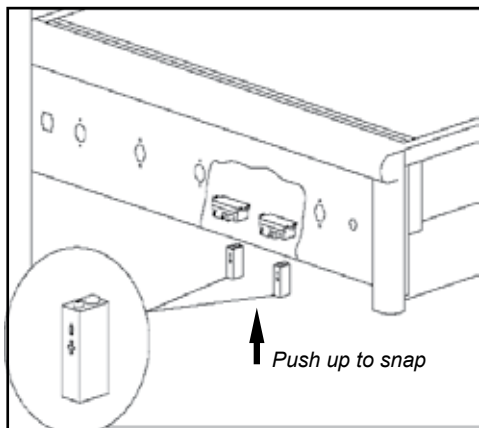

Fig. 16
4. Push to snap (Polarity is shown in Fig 16)